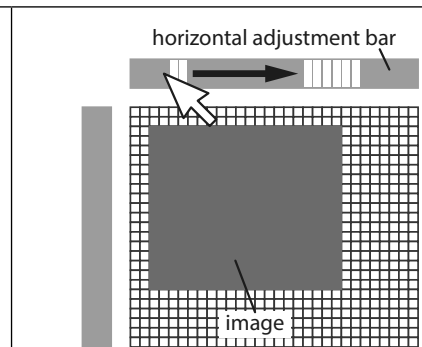

Fig. 97
3. To de-select the 'pixel zone' click and hold down on the left mouse button whilst moving the cursor right and the individual pixels will 'grey out' (de-select) one by one as the cursor continues to move back along the bar, as shown in **Fig.97**.